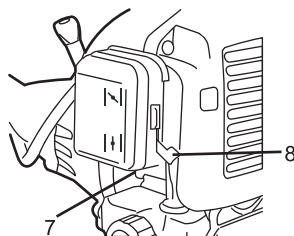

Fig. 12b
- > Depress the primer (7) until fuel is visible and move the choke lever (8) to its "CLOSE" position (Fig. 12b).
- > Do not prime and move the choke lever (8) to its “I” position (Fig. 12b).